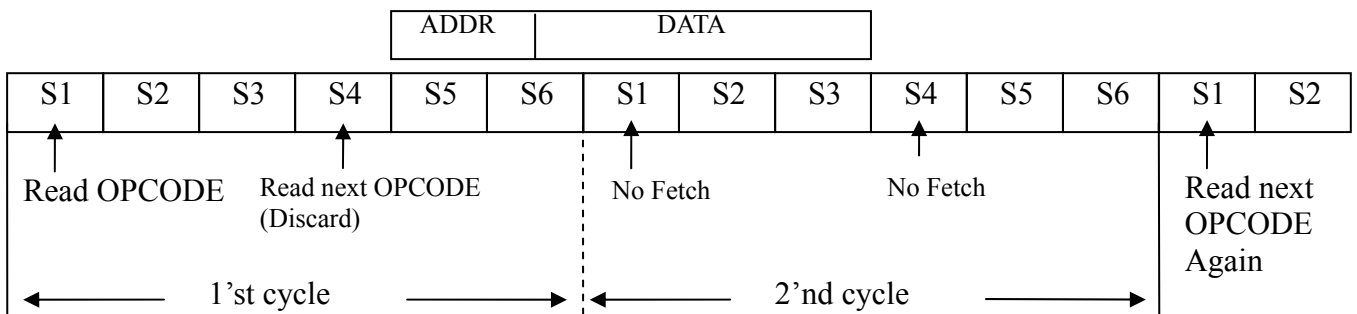

Figure 13 Timing of various instructions
The MOVX instructions take two machine cycles to execute. No program fetch is generated during the second cycle of a MOVX instruction. This is the only time program fetches are skipped. The fetch/execute sequence for MOVX instructions is shown in FIGURE13 (D)